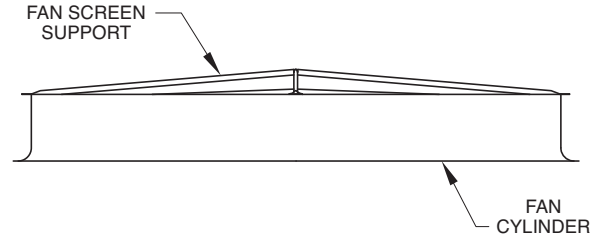

Figure 14 – Fan Screen Support Frame Installation
1. Set the fan screen support frame across the top of the discharge cylinder. (See Figure 14).